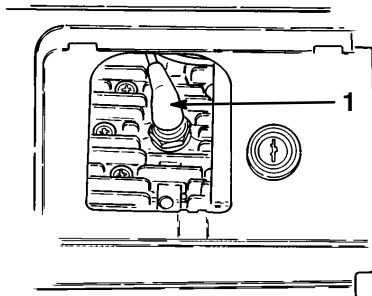

Figure 15
3. Pull the wire off the spark plug and remove the spark plug (Fig. 15)